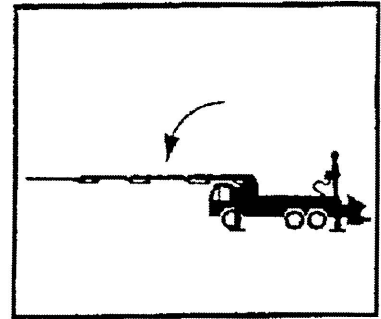

Figure 3
5. After point “A” has been established, lower the boom straight forward into a horizontal position. The weight is now transferred to the front of the turntable gear. (See Figure 3.)